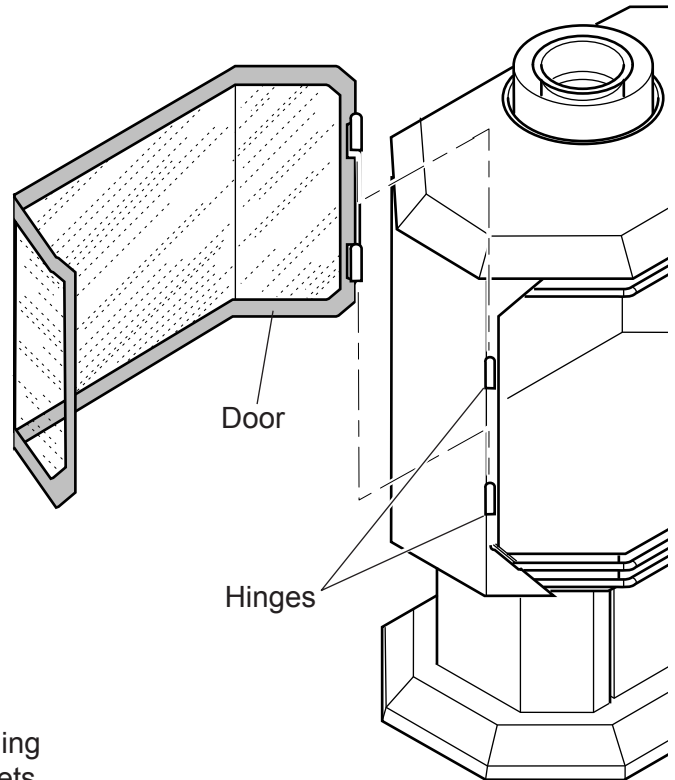

Figure 49 - Removing Door from Hinges
1. Put on gloves. Remove door from hinges by lifting the door up. *See Figure 49.*
2. Remove the $\frac{7}{8}$ " rope from around glass frame. *See Figure 49.*
9. Slide door back down the hinges. *See Figure 49.*